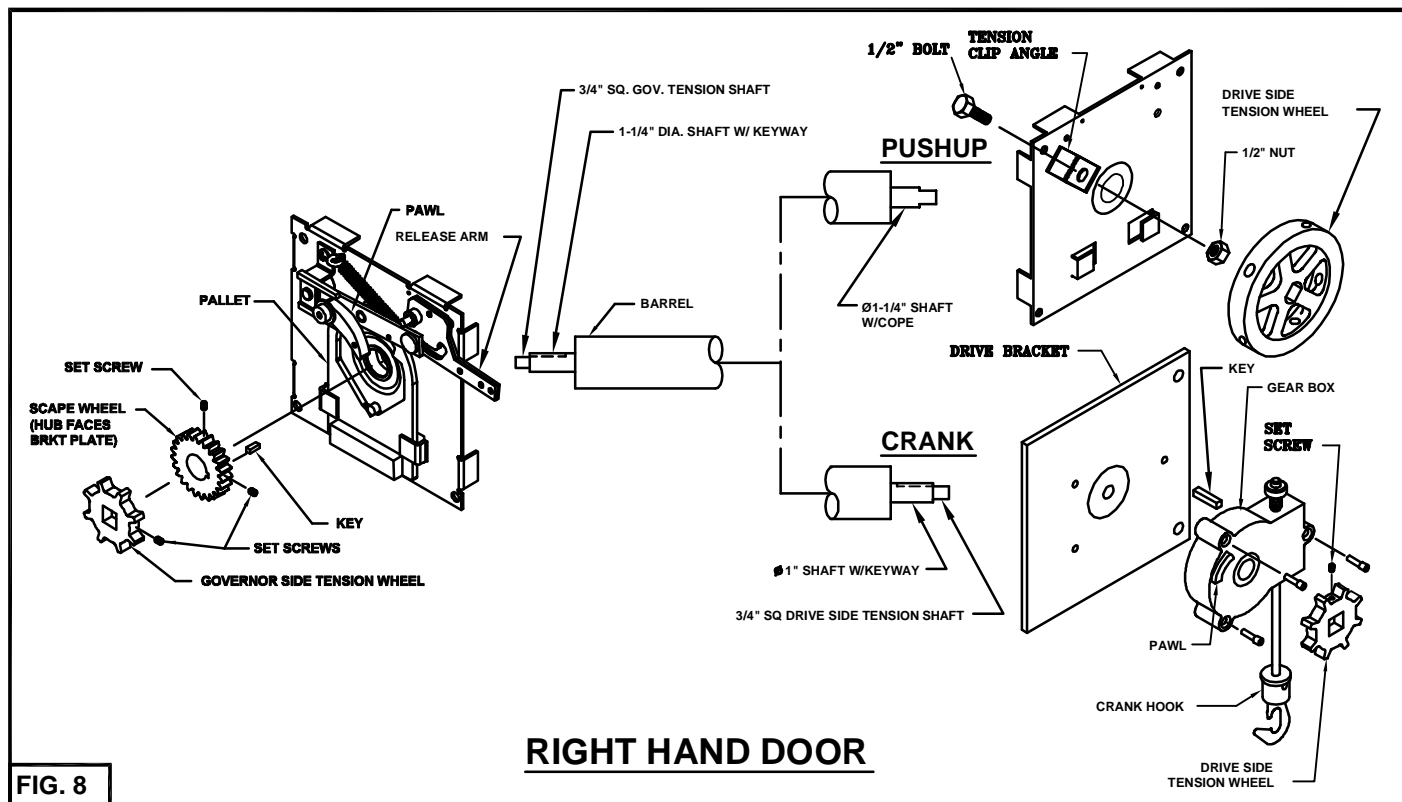

FIG. 8
A) ASSEMBLE STANDARD/DRIVE BRACKET AND TENSION/GOVERNOR BRACKET AND BARREL AS SHOWN IN FIG.8 & 9.